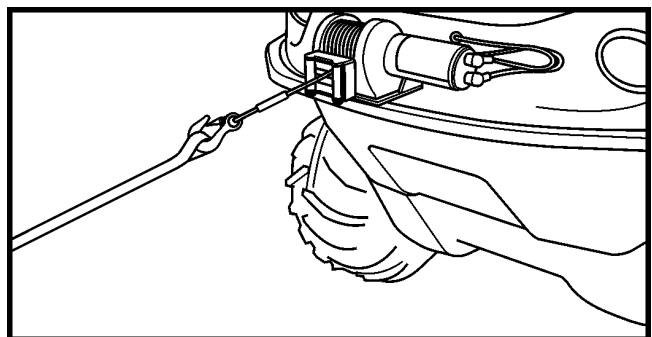

Figure 11-17. Using the Handsaver Strap.
7. Keep clear of winch wire rope and hook when operating winch. Never put your fingers through the hook when reeling in the last few feet of line. If your finger should become trapped in the hook, you could lose your finger. Use the **HANSAVER STRAP** (Figure 11-17) to guide the hook within the last few feet. Never guide a wire rope onto the drum with your hand.